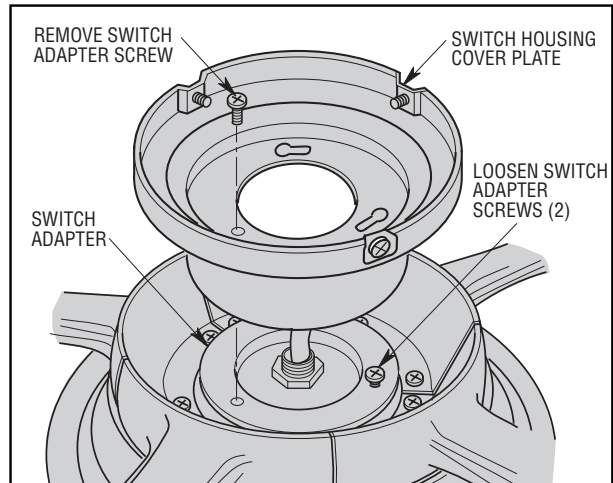

Figure 7
13. Remove one of the screws from the switch adapter. Retain for future installation. Loosen the two remaining screws in the switch adapter for installation of the switch housing cover plate (Figure 7).
14. Place the switch housing cover plate onto the switch adapter. Engage the keyholes of the switch housing cover plate by rotating the switch housing cover plate clockwise on the switch adapter. Retighten the two screws and reinstall the screw previously removed. Tighten all three screws securely (Figure 7).